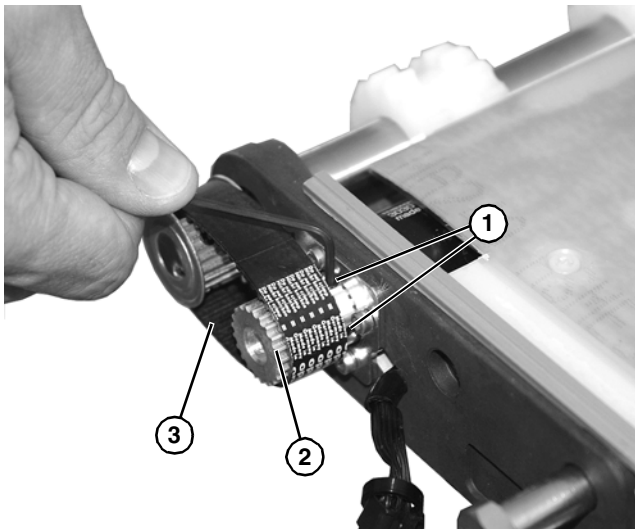

Figure 77
7. Loosen two set screws (**Figure 77, item 1**) on drive pulley (**Figure 77, item 2**). Slide drive pulley outward off of gearmotor shaft and remove timing belt (**Figure 77, item 3**).